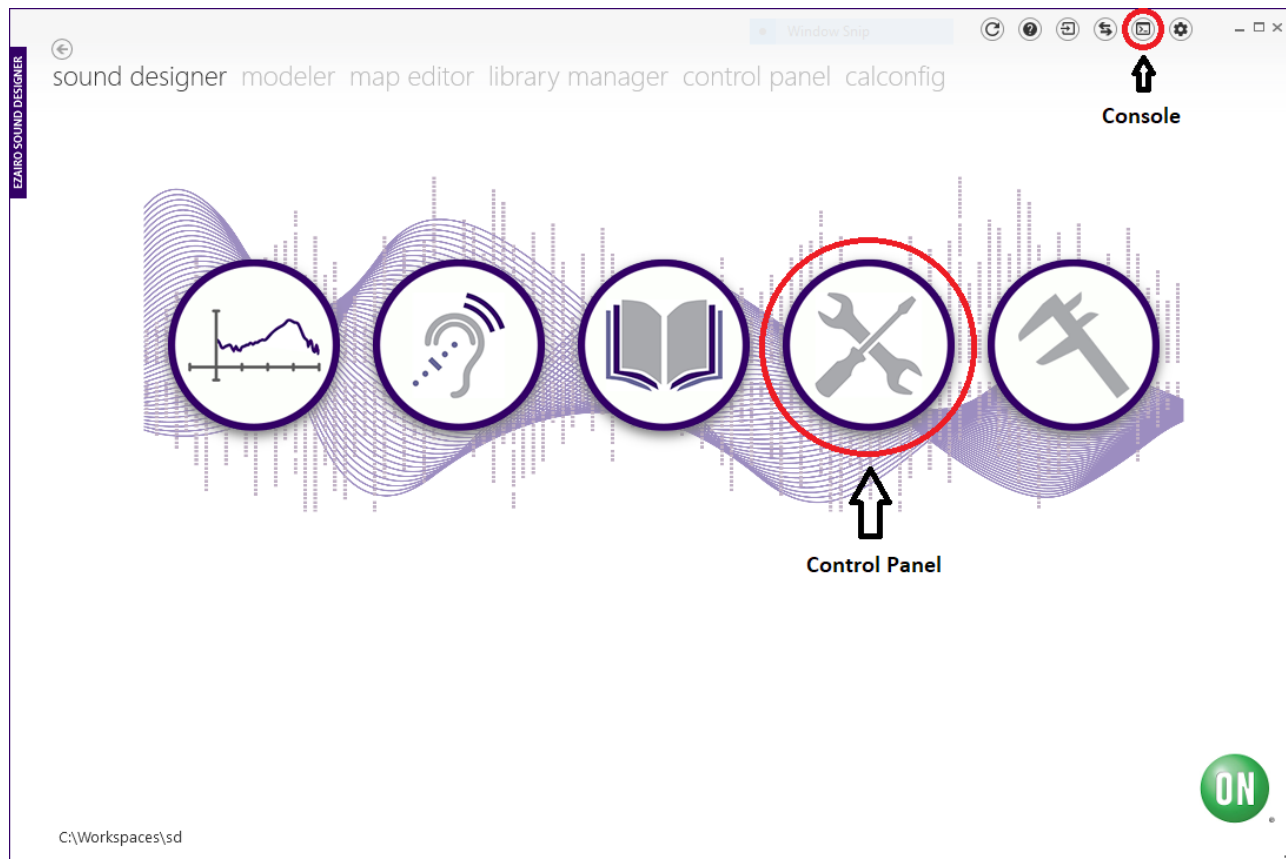
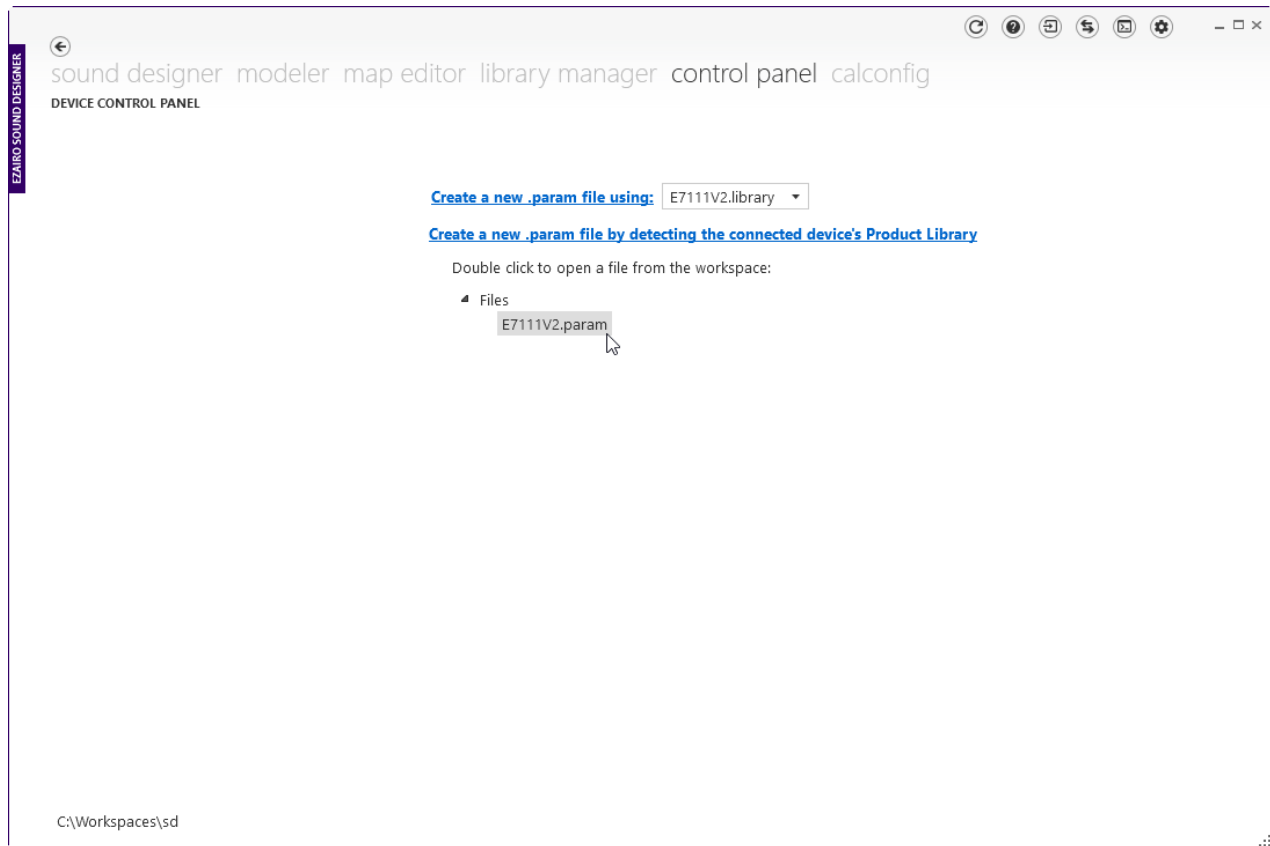

Figure 7. Opening the Control Panel and the Console Window
Figure 8. Selecting the Parameter File
4. Optionally, open the console window by clicking the Show Console icon (shown in the "Opening the Control Panel and the Console Window" figure (Figure 7)). The console window displays error and status messages accumulated in this session. We recommend having the console viewable at all times while using Sound Designer Software, to get immediate status information.
5. To configure device parameters, click on the **Control Panel** icon (circled in red in the "Opening the Control Panel and the Console Window" figure (Figure 7)) and, when prompted, double-click the **Ezairo7111V2.param** sample parameter file to open the demo product library, as shown below in the "Selecting the Parameter File" figure (Figure 8).